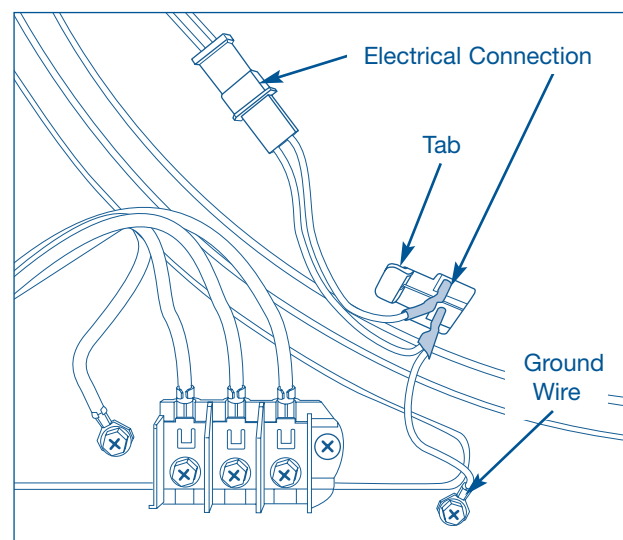

Figure 4-27.
**NOTE:** The electrical connection can be disconnected at the molex connector and with the removal of the ground wire screw as shown in Figure 4-27.
3. From inside the drying compartment, extract the screw securing the moisture sensing bars to the back wall. (See Figure 4-27)